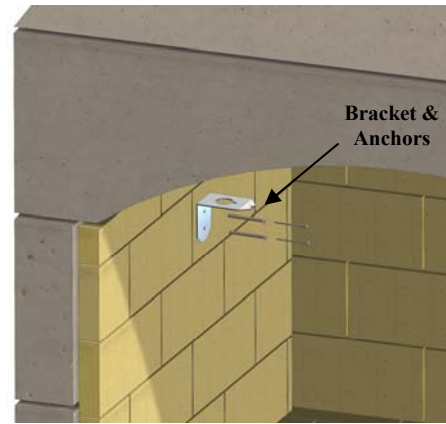

Figure 28. Install Bracket & Anchors
C. Install bracket towards the front of the firebox wall, about 20 inches above the firebox floor. The bracket will capture the damper operating cable. Use a 1/4" masonry bit to avoid cracks in the firebrick. See Figure 28.